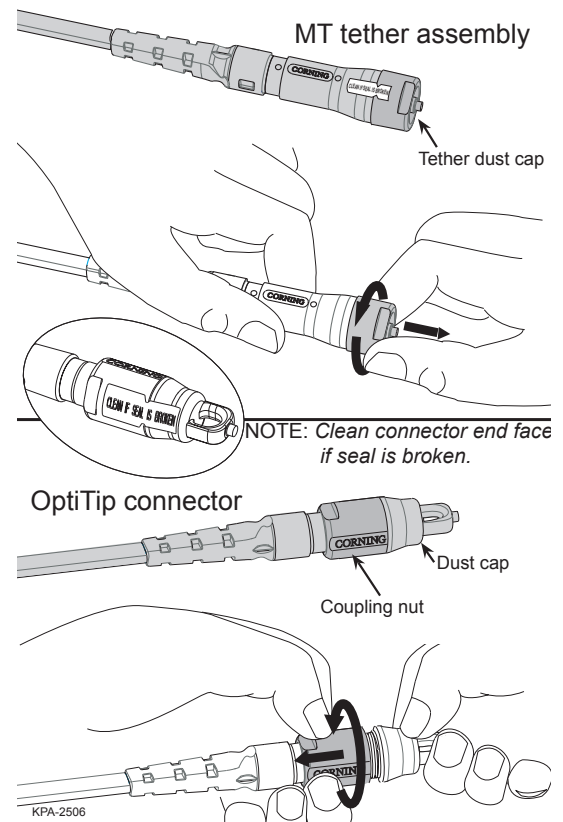

Figure 14
Step 2: Remove the dust cap from the tether assembly by turning the cap counter-clockwise (Figure 14).